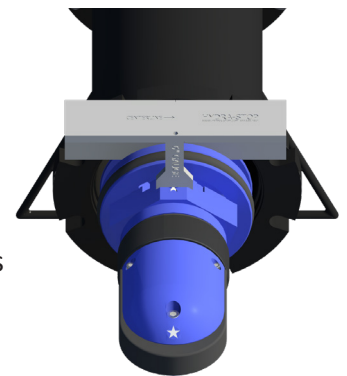

FIGURE 52
3.0.14) Set the curved portion of the alignment gauge within the lock pin groove of the valve cartridge. Slide the valve cartridge towards the insertion housing until the alignment gauge touches the insertion housing. The two (2) gauge pins will seat in the top two holes of the insertion housing (see Figure 52).